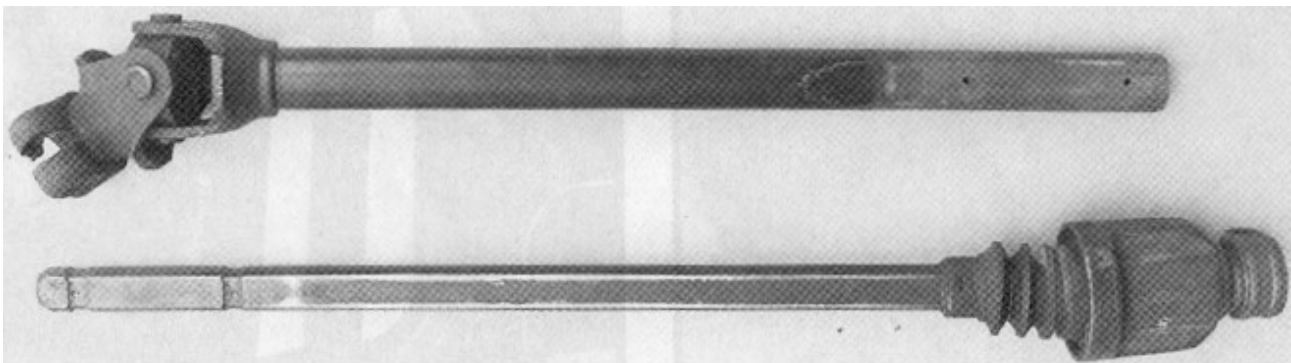

Figure 2
1A: The shaft is telescoping from the factory (so it can collapse in case of a collision). To make it gain length or extend the two halves must have the plastic locking device removed. The plastic must be melted out by heating the shafts. If you choose this method (A), remove the entire shaft from the Jeep™. Use a torch and slightly heat the two halves until the plastic is melted out and the two shafts will slide apart. Do this in a well ventilated area cause the meeting plastic stinks! Clean them with a wire brush, and paint them. Do not re-install the steering shaft at this time. See figure 2.